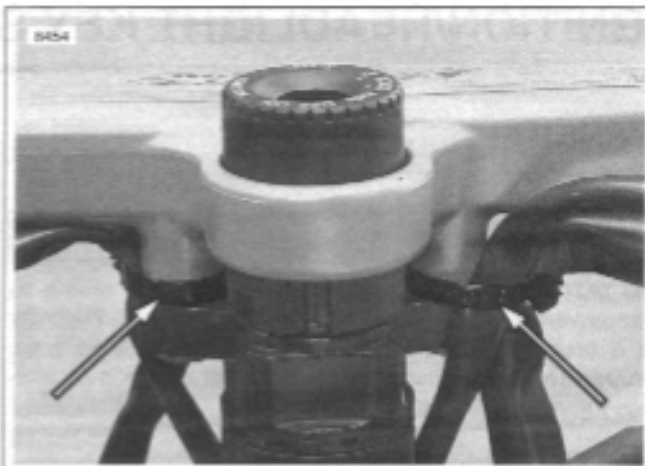
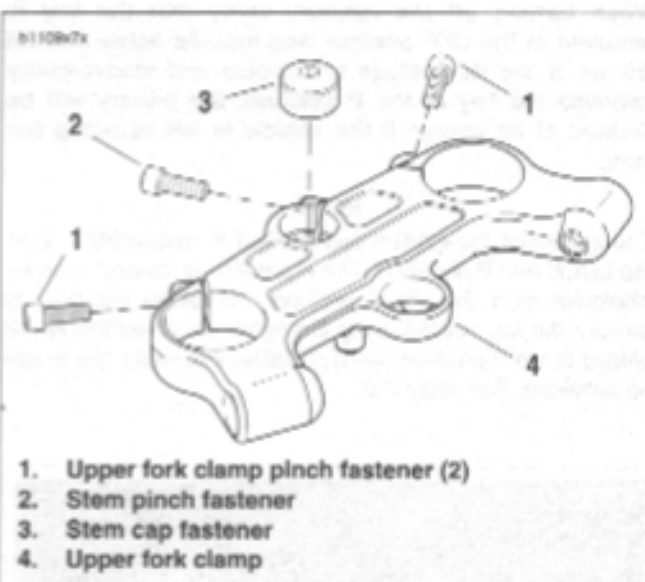
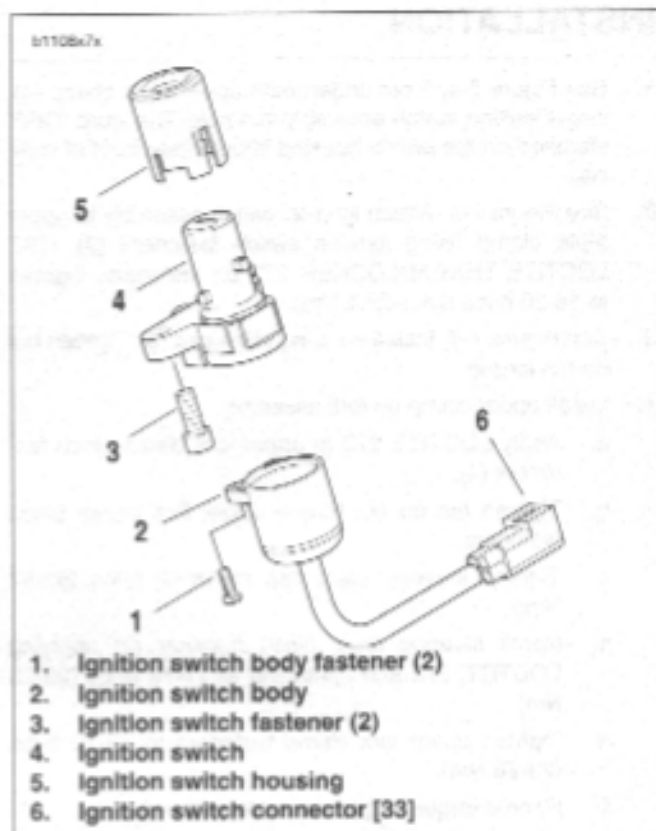
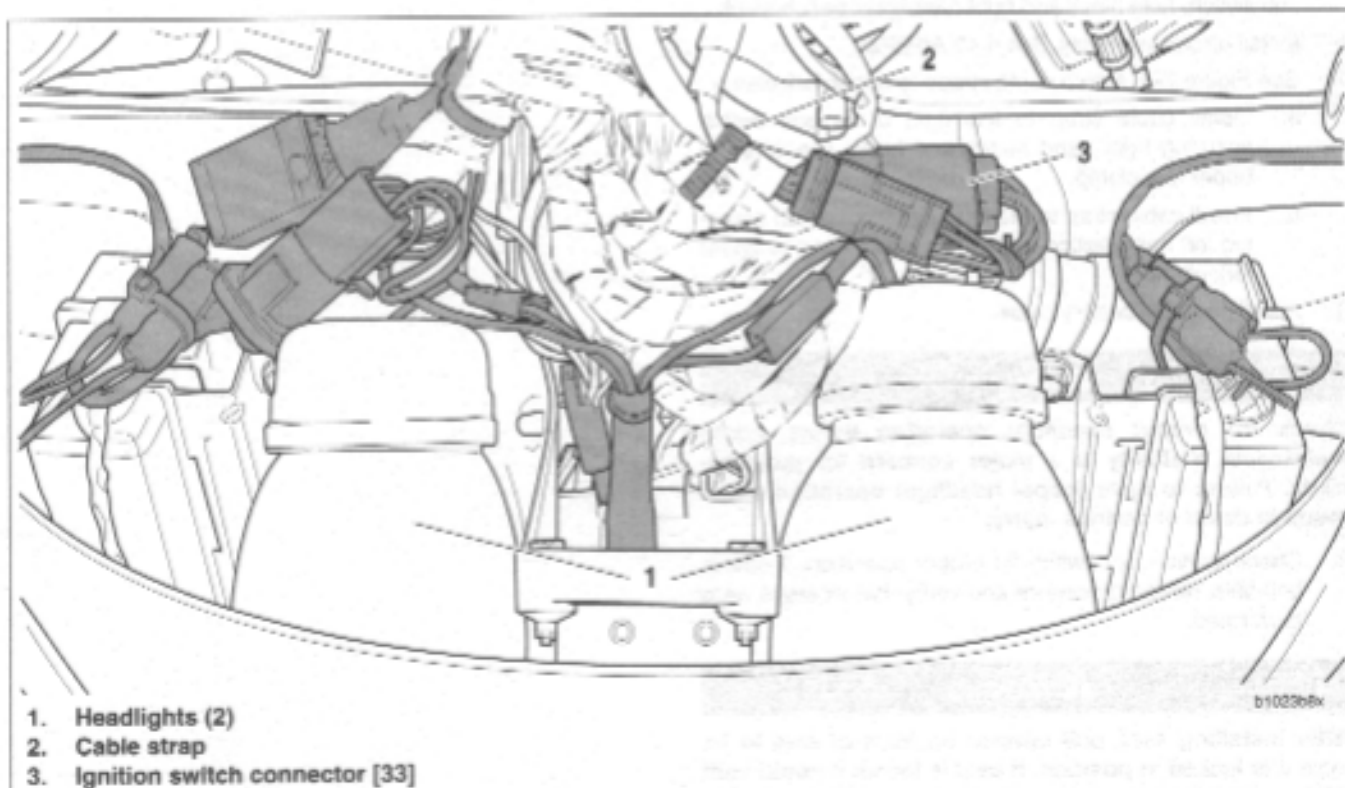

Figure 7-3. Cable Straps On Upper Fork Clamp
Figure 7-4. Upper Fork Clamp
Figure 7-5. Ignition Switch Assembly
Figure 7-6. Ignition Switch Connector (viewed from underneath fairing)
3. See Figure 7-6. Cut cable strap (2) holding ignition switch, fuse block and right handlebar switch wires.
4. Disconnect ignition switch connector [33] (3).
5. See Figure 7-3. Remove cable straps attached to the upper fork clamp.
7. See Figure 7-4. Remove steering stem pinch fastener (2).
8. Remove upper fork clamp pinch fasteners (1).
9. See Figure 7-4. Hold or brace the lower fork clamp and remove steering stem cap (3).
10. Remove the upper fork clamp (4) from forks.
11. See Figure 7-5. Use Snap-on Tamper-Resistant T45 Torx driver, Part No FTXR45E to remove ignition switch fasteners (3) securing ignition switch (4) to upper fork clamp. Slide ignition switch out of upper fork clamp.
1. See Figure 7-5. Remove ignition switch housing (5) from ignition switch (4) by prying tabs on side of housing
2. Remove ignition switch body fasteners (1). Separate ignition switch body (2) from ignition switch (4).
See Figure 7-5. In next step, be sure wide slot in ignition switch housing (5) is installed over wide boss on ignition switch (4).
1. Push ignition switch housing (5) on to ignition switch (4).
1. See Figure 7-4. From underneath upper triple clamp (4), insert ignition switch assembly into hole. The word "OFF" stamped on the switch housing should face front of vehicle.
2. See Figure 7-5. Attach ignition switch assembly to upper triple clamp using ignition switch fasteners (3). USE LOCTITE THREADLOCKER 272 on fasteners. Tighten to 18-20 ft-lbs (24.4-27.1 Nm).
3. See Figure 7-4. Install steering stem cap (3). Tighten but do not torque.
- a. Apply LOCTITE 272 to upper fork clamp pinch fasteners (1).
- d. Install steering stem pinch fastener (2) applying LOCTITE 272 and tightening to 17-19 ft-lbs (23-26 Nm).
5. See Figure 7-6. Connect ignition key switch connector (3) to wiring harness. Install cable strap (2) around ignition switch, fuse block and right handlebar switch wires.
7. See Figure 7-3. Attach cable straps to upper fork clamp.